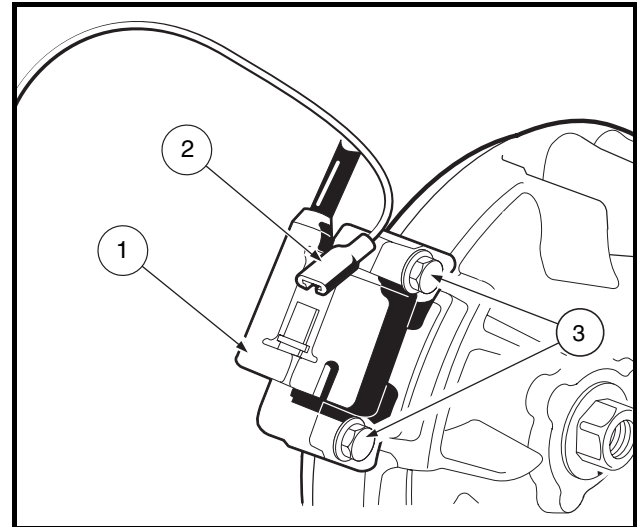

Figure 13-9 Ignition Coil
2. Disconnect the ignition coil (1) from its primary lead wire at the connector (2). Remove the two bolts (3) and take out the ignition coil (**Figure 13-9, Page 13-8**).